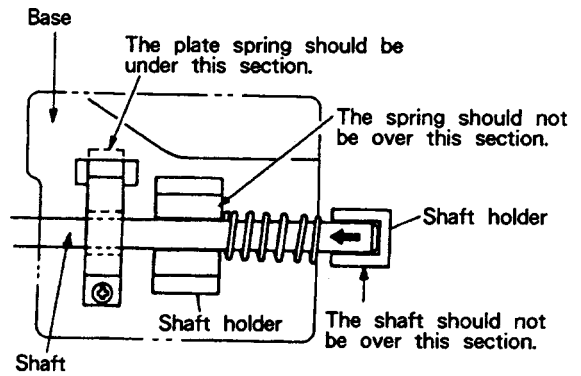
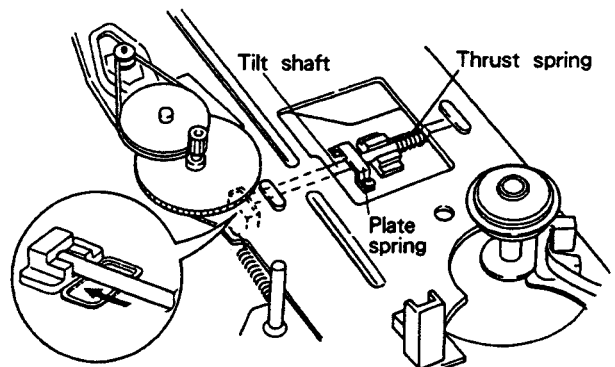

Fig 7-18-1
Fig. 7-18-2
- After inserting the tilt shaft in the position shown in Fig. 7-18-1 of mechanism chassis assembly, mount the servo mechanism base assembly in the direction of the arrow so that the tilt shaft does not come over the shaft holder as shown in Fig. 7-18-2.